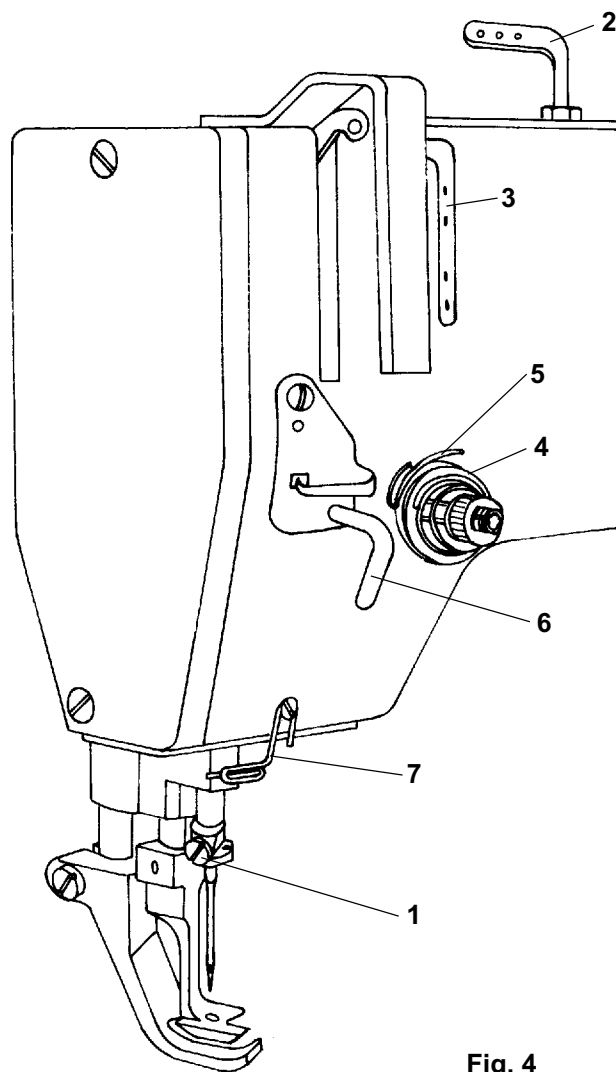

Fig. 4
7. To insert the needle (Fig. 4)
8. To thread the upper thread (Fig. 4)